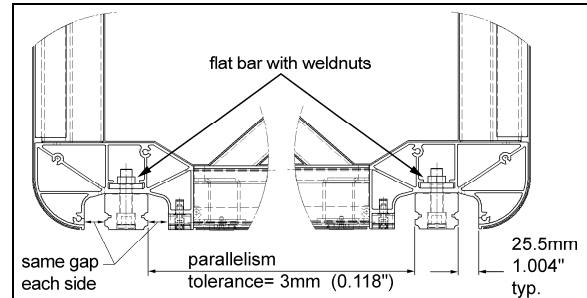

FIGURE 25 : RAIL POSITIONING
The rail is bolted to a flat bar on which weldnuts are mounted. The flat bar is inserted in the slide-out lower body extrusion and can be removed through the end cap (FIGURE 25).
8. Adjust the rail position as per FIGURE 25. For each rail, make sure the gap is the same both side of the rail.